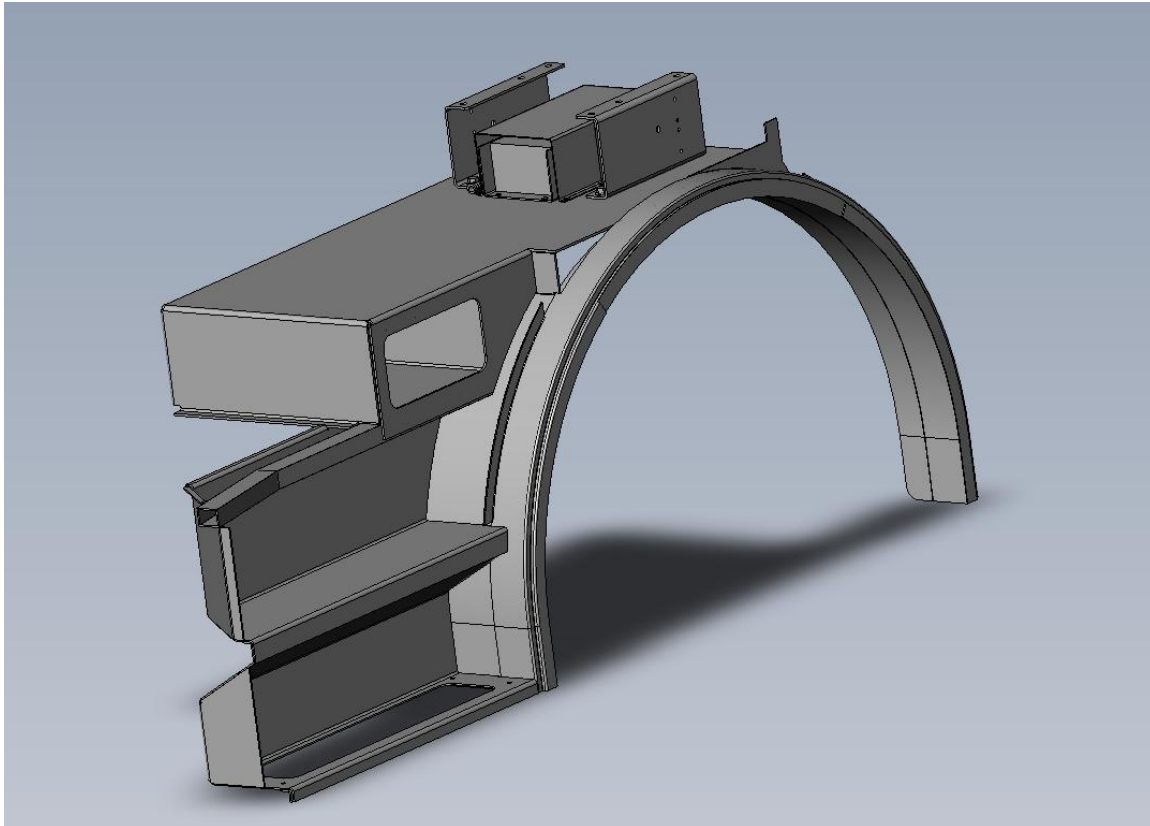

Figure 4.1
- 4) Locate Kussmaul charger, typically mounted under the driver's rear facing seat. (**See Figure 4.1**)